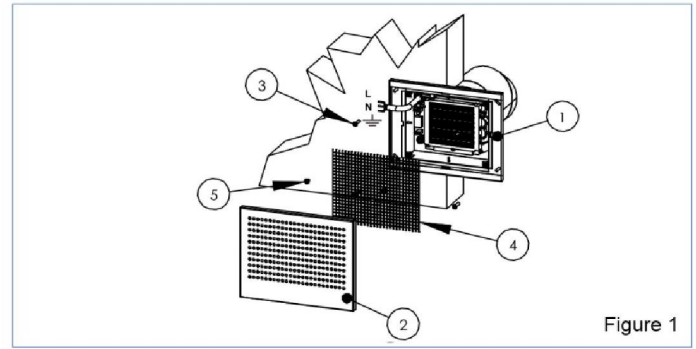

Figure 1
**PARTS OF SUPPLY AIR UNIT, FIGURE 1:**